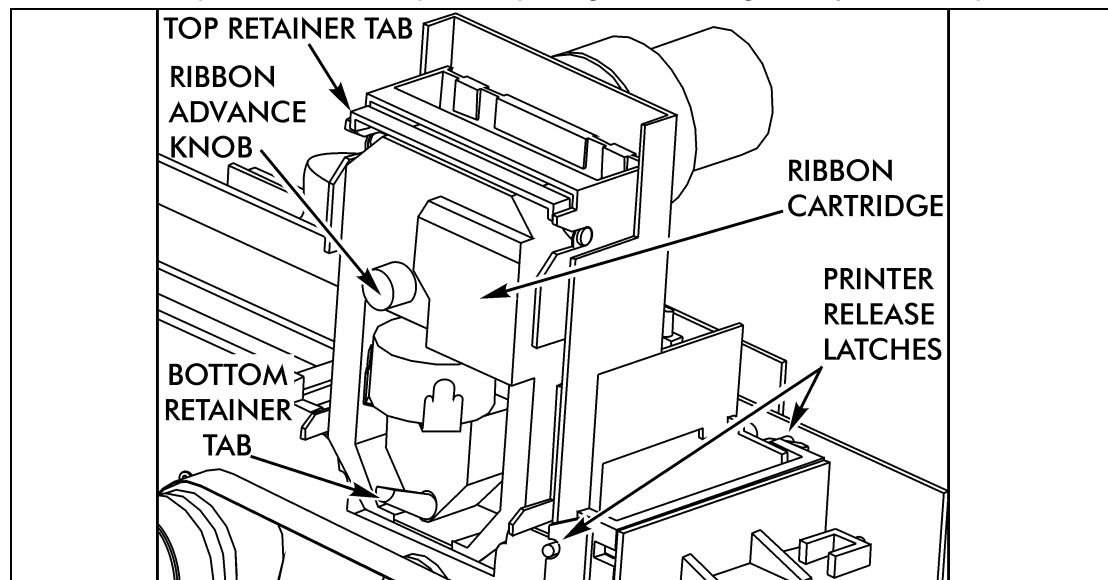

Figure 3-6: Replacing the Ribbon Cartridge
1. Refer to Figure 3-6 below to locate the ribbon cartridge and white nylon retainer tabs securing the cartridge in place.